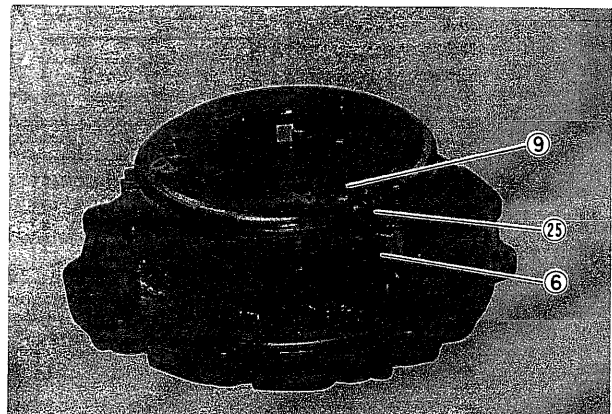

Fig. 69
- 4) Pull of spring pin (25) and pull off planetary gear shafts (9) and remove planetary gears (6), needle bearings (7) and thrust washer (8). (Fig. 69)